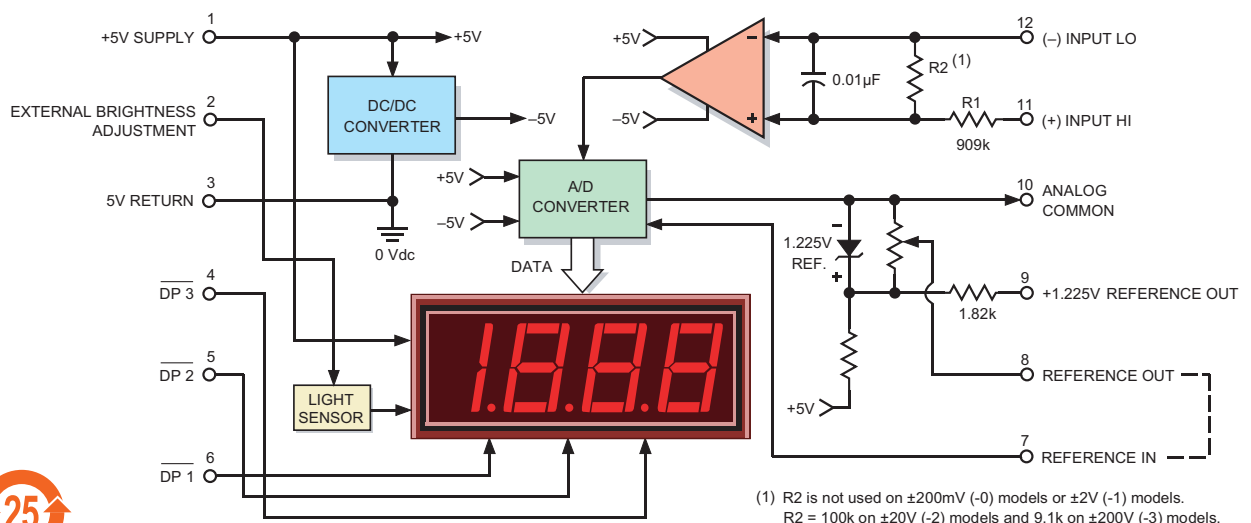

Figure 1. DMS-30DR Simplified Schematic
① Applies for transient or continuous overvoltages applied to (+) INPUT HI (pin 11) with (–) INPUT LO (pin 12) properly connected. Pin 12 is not overvoltage protected (see Figure 1). Voltages applied to pin 12 should not exceed the supply voltage.
② See Technical Notes.
The simplified schematic shown in Figure 1 can be very useful when debugging a malfunctioning panel meter circuit, particularly if the user has some knowledge of operational amplifiers (op amps). The meter’s high-impedance input consists of an op amp powered from a  $\pm 5\text{Vdc}$  power supply (the  $-5\text{V}$  is internally generated). Knowing this, one can easily see why input signals applied to (–) INPUT LO and (+) INPUT HI have to be kept within the power supply rails of  $\pm 5\text{V}$ . Also note that only pin 11 has a current-limiting 909K $\Omega$  series resistor. High input voltages that have a common ground with pin 3 (5V RETURN) should only be applied to pin 11 ((+) INPUT HI) and never to pin 12. In these high-voltage cases, pin 12 should always be tied to pin 3 (5V RETURN).